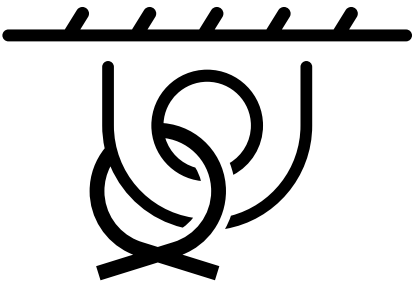

Figure 5. Tie-Down Symbol
1. Locate the **tie-down symbols** (Figure 5) on each side of the trowel.